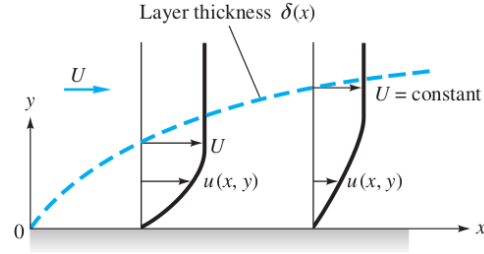

Fig. 4.6
4.6 An excellent approximation for the two-dimensional incompressible laminar boundary layer on the flat surface in Fig. 4.6 is